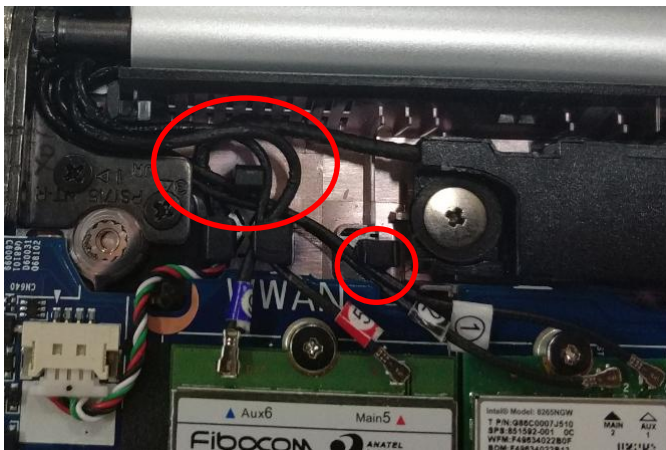

Fig.1
1. Disassemble WLAN/WWAN cable from module & hook(Fig.1).